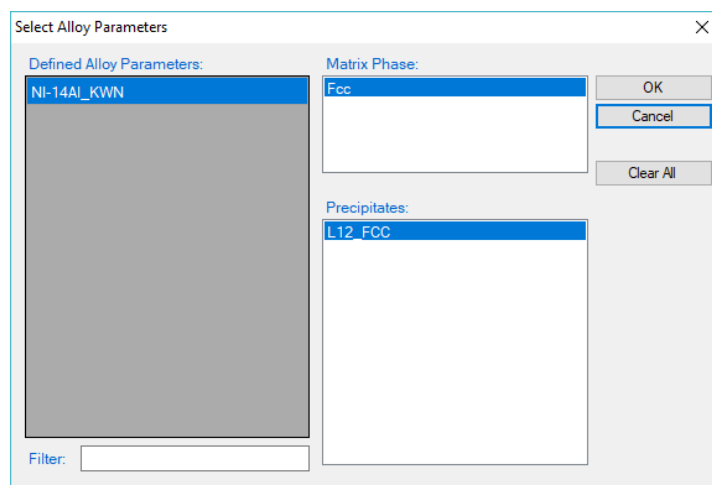

Figure 3.1.1: Loading the Ni-14Al_Precipitation.kdb
- Click on PanPrecipitation on the menu bar and select Load KDB, then select the Ni-14Al_Precipitation.kdb, a dialog will pop out as shown in Figure 3.1.1. This dialog shows the key information stored in the Ni-14Al_Precipitation.kdb, i.e, the matrix phase is Fcc, and the precipitate phase is L12_FCC;